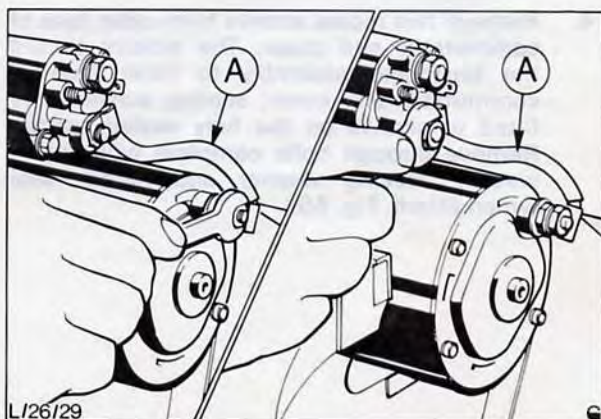

Fig. 56. Secure 'A', connector link, to solenoid and main terminal
24. Refit connector link between solenoid and main feed terminal and secure with nuts and washers, Fig. 56.